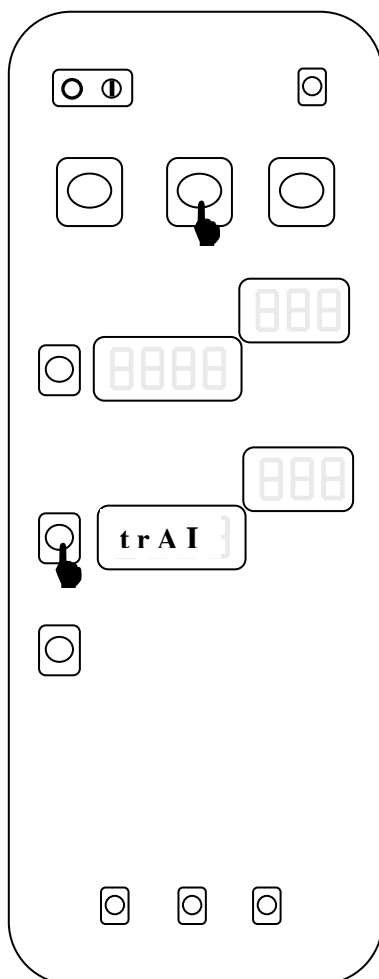

Fig. 21
- Combi cycle, time buttons (fig. 21): activation of rinser pump (**trAI** appears)